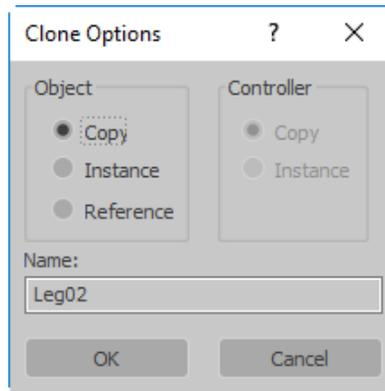

Figure 5-6 The Clone Options dialog box
- In this dialog box, enter **Leg02** in the **Name** text box and make sure the **Copy** radio button is selected, as shown in Figure 5-6. Next, choose the **OK** button; *Leg02* is created over *Leg01*.